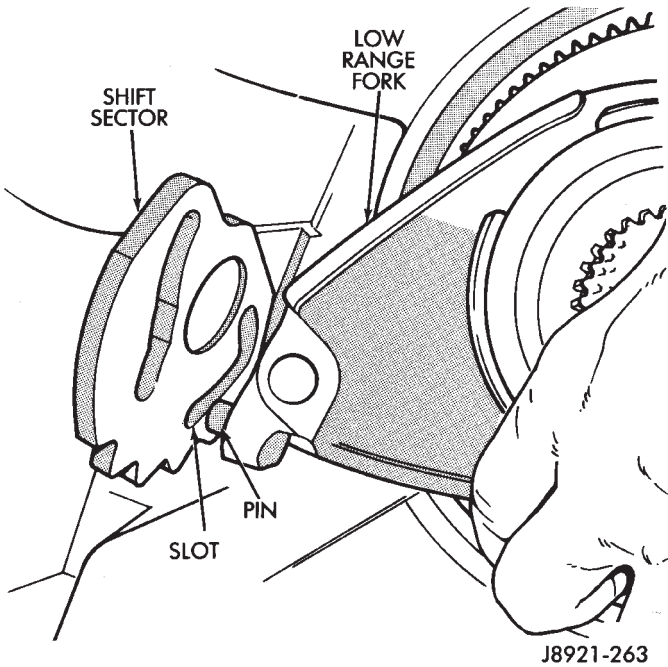

Fig. 35 Disengaging Low Range Fork
- (12) Remove differential needle bearings and both needle bearing thrust washers from mainshaft.
- (13) Slide low range fork pin out of shift sector slot (Fig. 35).